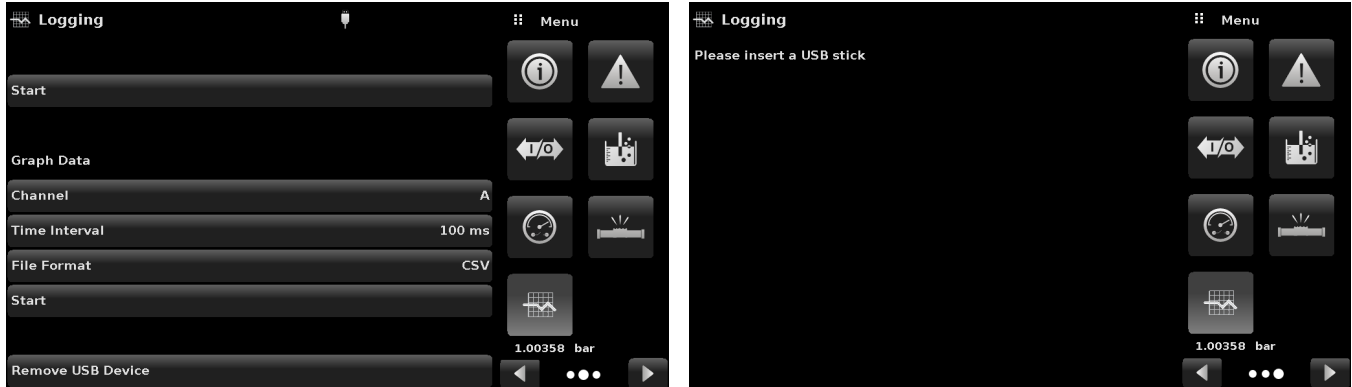

Figure 6.4.15-A Logging App with USB (left) and without USB (right)
**NOTE:** The Logging Application is only usable when a compatible USB device is plugged to the front panel of the CPC6050. The Application functional Figure 6.4.15-A shows the Logging App with and without a USB.